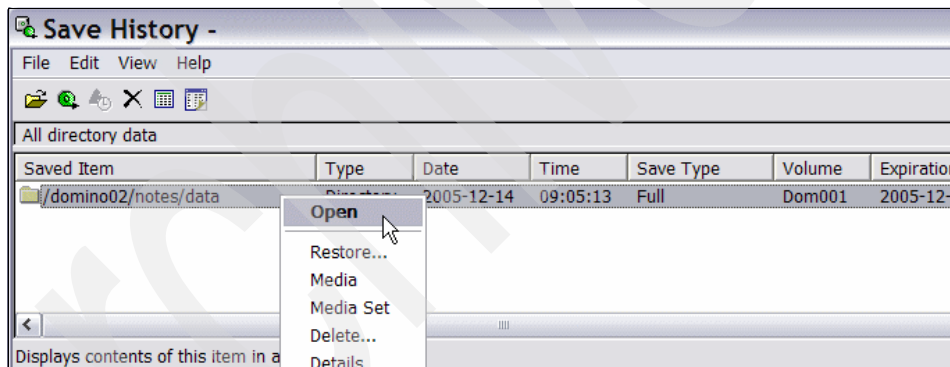

Figure 5-85 Restore Domino data with BRMS, Save History - open file for restore
- Right-click the relevant saved record item and select **Open**, as shown in Figure 5-85.